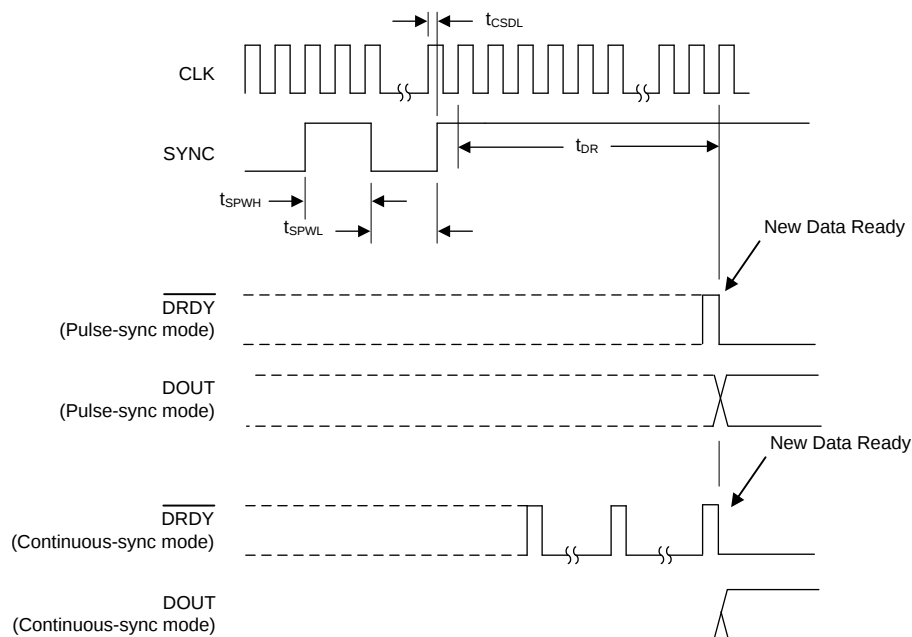
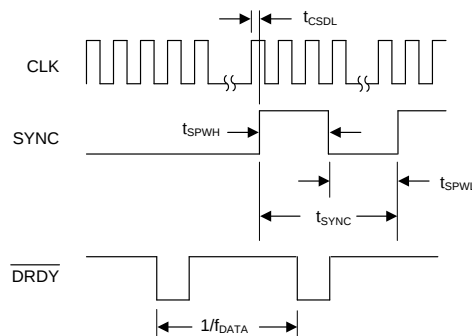

Figure 45. Pulse-Sync and Continuous-Sync Timing With Single Synchronization
Figure 46. Continuous-Sync Timing With SYNC Clock
In pulse-sync mode, when a synchronization occurs (by pin or command), the ADS1283 unconditionally stops and restarts the conversion process. When the ADC synchronizes, the device resets the internal filter memory, DRDY goes high, and after the digital filter has settled, new conversion data are available as shown in Figure 45 and Table 12.
Table 12. Pulse-Sync Timing for Figure 45 and Figure 46
(1) CLK rising edge to SYNC rising edge timing must not occur within the specified time window.
(2) Continuous-sync mode; a free-running clock applied to the SYNC input without causing resynchronization. See Figure 46
Observe the timing restriction of SYNC rising edge to CLK rising edge as shown in Figure 45 and Table 12. Synchronization occurs on the next rising CLK edge after the rising edge of the SYNC, or after the eighth rising SCLK edge when synchronized by command. To synchronize multiple ADCs, broadcast the command to the ADCs simultaneously.
In continuous-sync mode, either a single synchronization pulse or a continuous clock may be applied. When a single synchronization pulse is applied (rising edge), the device resynchronizes as it does in pulse-sync mode. ADC resynchronization occurs only under the condition that the time from the previous rising edge of SYNC is not a multiple of the conversion period. When resynchronization occurs in continuous-sync mode, $\overline{DRDY}$ continues to toggle unaffected, and the DOUT output is held low until data are ready (63 $\overline{DRDY}$ periods later). At the 63rd reading, conversion data are valid (when the conversion data are non-zero), as shown in Figure 45.
If a SYNC clock is applied to the ADC, the device resynchronizes only under the condition $t_{SYNC} \neq N / f_{DATA}$, where $N = 1, 2, 3$, and so on. $\overline{DRDY}$ continues to output, but DOUT is held low until the new data are ready. If a SYNC clock is applied and the clock period matches an integral multiple of the output data rate, the device freely runs without resynchronization. Note that the phase of the applied clock and output data rate ($\overline{DRDY}$) are not aligned because of the initial delay of $\overline{DRDY}$ after the SYNC clock is first applied. Figure 46 shows the timing for continuous-sync mode.